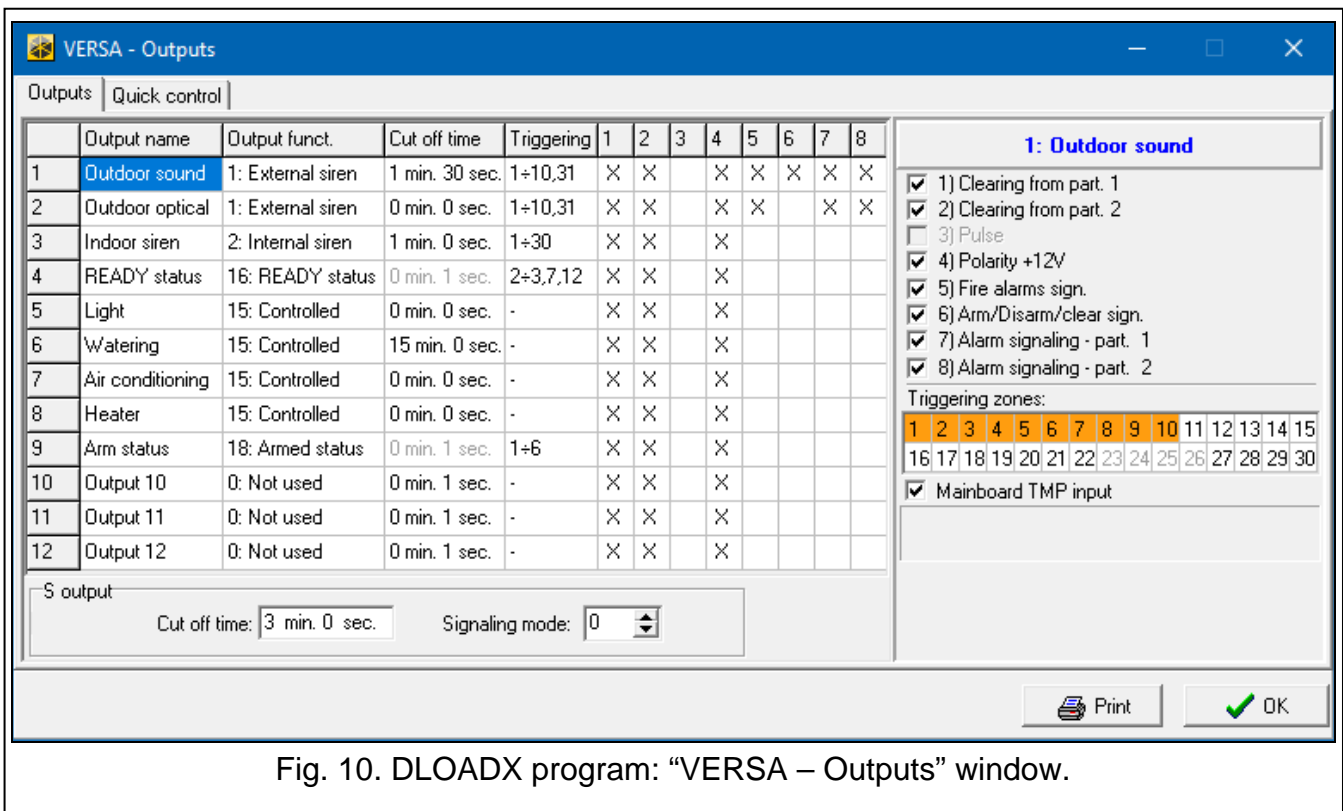

Fig. 10. DLOADX program: “VERSA – Outputs” window.
- DLOADX program: “VERSA – Outputs” window (Fig. 10).